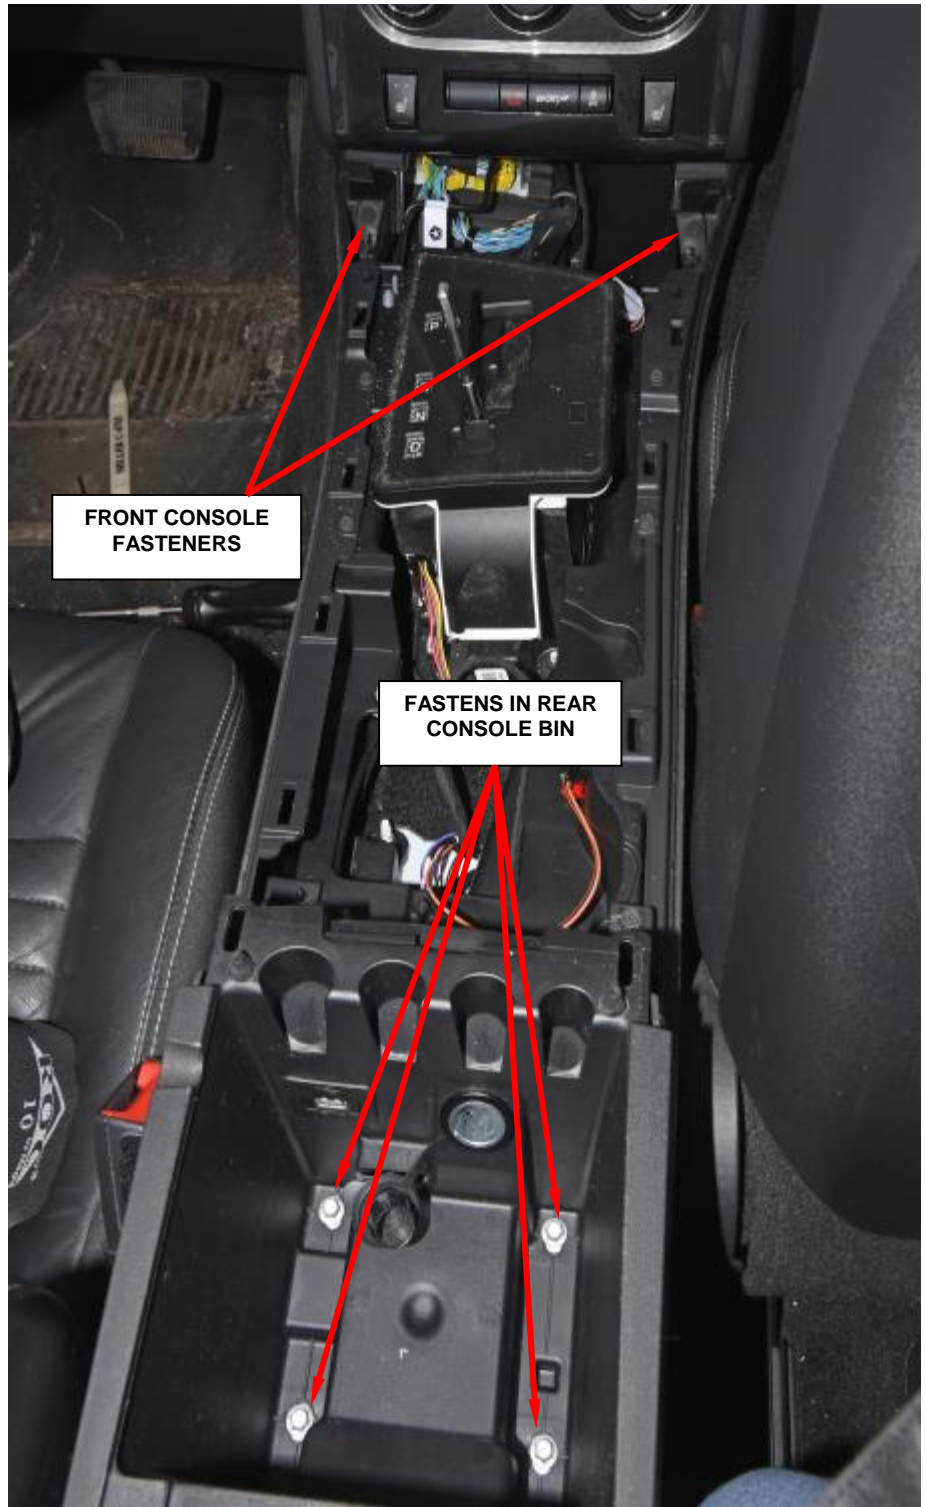

Figure 42 – Floor Console
13. Remove the four fasteners from the rear bin that secure the console to the floor panel transmission tunnel (Figure 42).
14. Remove the two fasteners that secure the front of the console to the instrument panel (Figure 42).